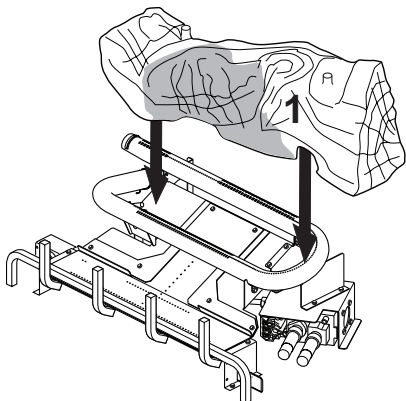

Figure 23 - Installing Log #1
1. Place rear log (#1) on base assembly as shown in Figure 23. Log will fit over right end of burner and rest in middle of U-burner.